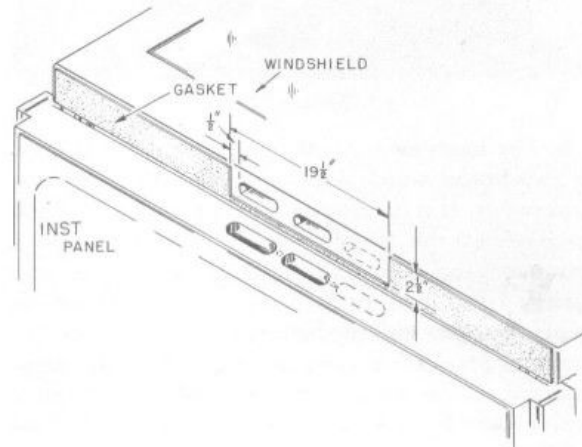
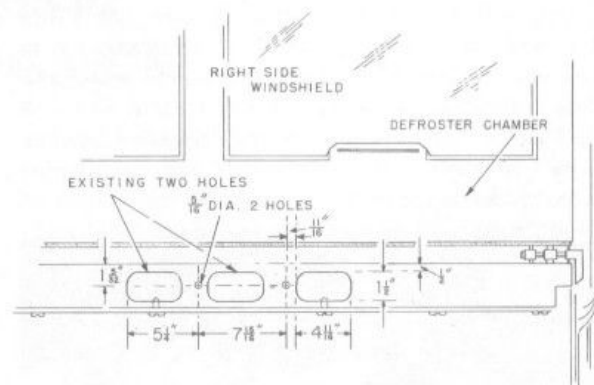
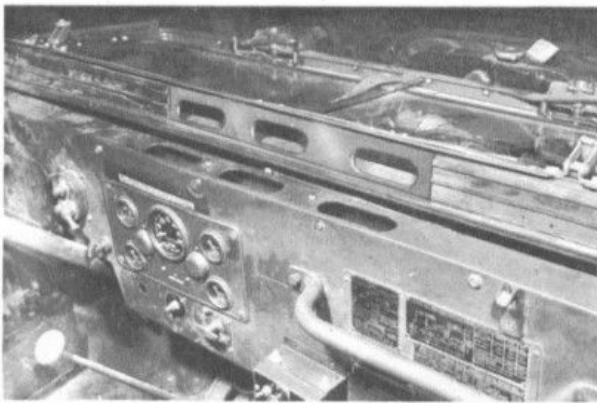

Figure 9
Figure 10
Figure 11
4. To insure an adequate flow of air to the right windshield, it will be necessary to cut an additional opening, similar to those already in the windshield frame, and a mating hole must also be cut in the body of the vehicle. Cut away the rubber gasket using the dimensions shown in Figure 9, and then mark the holes as shown in Figure 10. Mark the windshield the same as the body. Cut away the metal of the windshield frame and the body. Also drill the two 5/16-inch holes for the defroster mounting screws (Figure 11).